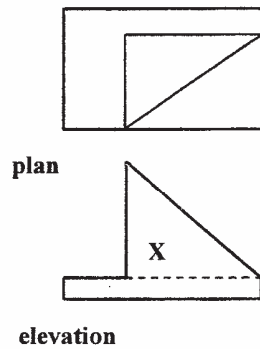

Figure 2
- 4 Figure 2 shows two views of a block in third angle projection.